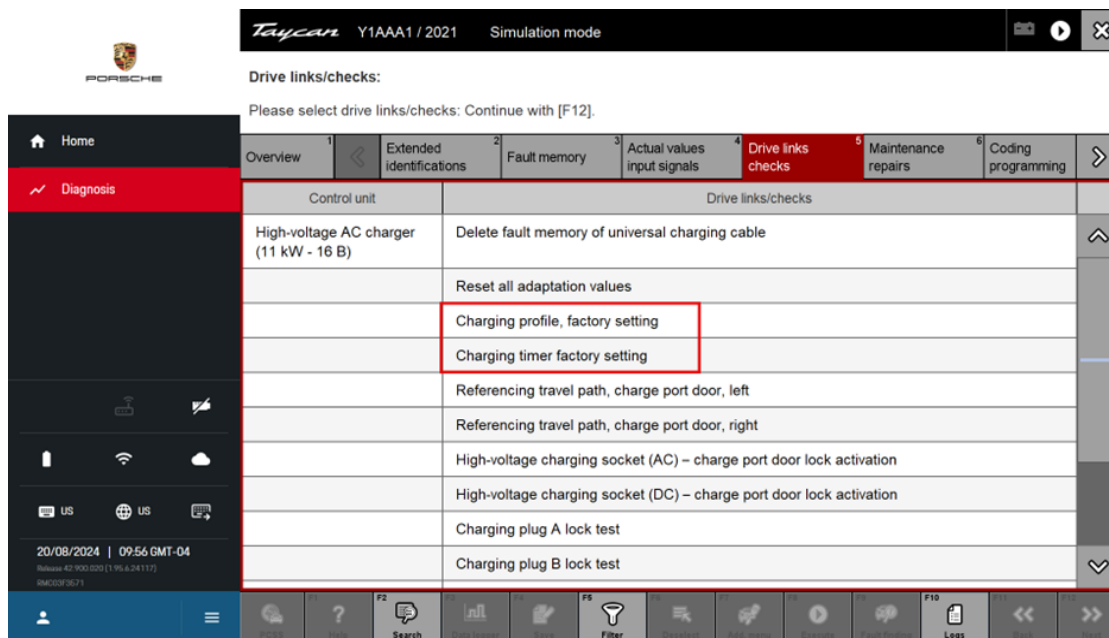

Figure 2
- B. Perform both PT4G functions under *Diagnostics >> OBC >> Drive Links/checks >> Charging profile, factory setting and Charging timer factory setting* (See Figure 2)